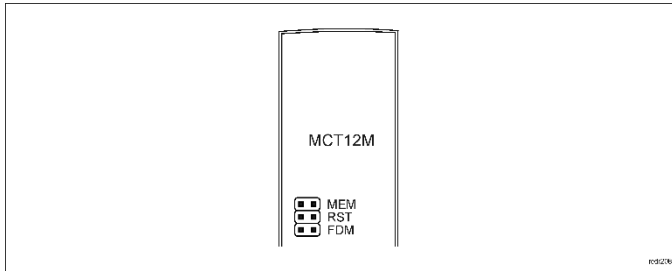

Fig. 3 Location of service contact.
Note: Remote configuration of device from VISO v2 software is possible only if jumper is placed on MEM contacts (fig. 3). If the jumper is removed then such configuration is blocked. In case of factory new device, jumper is placed on MEM contacts.
In RACS 5 v2 system the reader can be installed at site without previous configuration. According to AN006 application note, its address and other settings can be configured from VISO v2 management software and during such configuration the access to its service contacts (fig. 3) is not required.
2. Remove jumper from MEM contacts (fig. 3) if it is placed there.
2. Place jumper on FDM contacts (fig. 3).